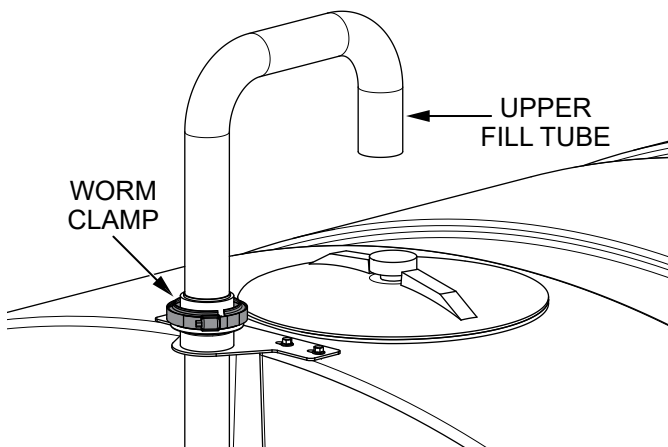

Figure 2. Remove Upper Fill Tube
1. Loosen the **worm clamp** (Figure 2) securing the **upper fill tube** to the fill riser. Remove the upper fill tube and save it for later. Discard the hose clamp.